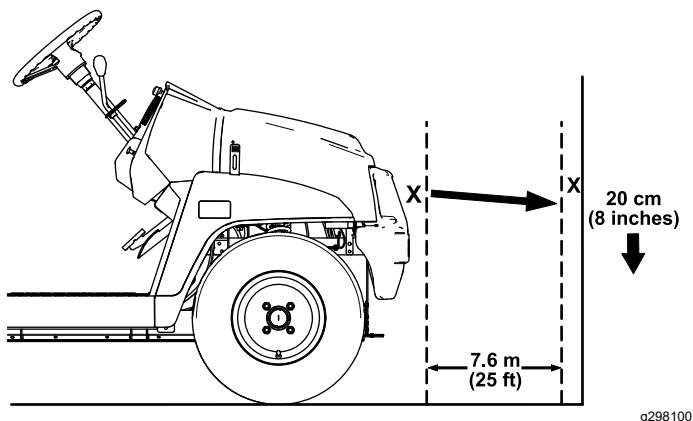

Figure 42
1. Park the machine on a level surface with the headlights approximately 7.6 m (25 ft) from a wall (Figure 42).
The brightest part of the headlight beam should be 20 cm (8 inches) below the mark placed on the wall (Figure 42).